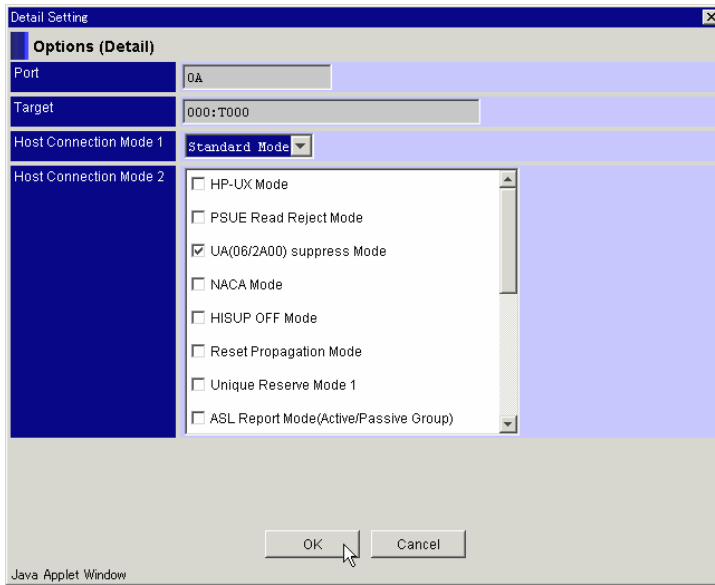

Figure 8.4 Detail Setting Dialog Box
8. Click **Options (Detail)**. See Figure 8.4.